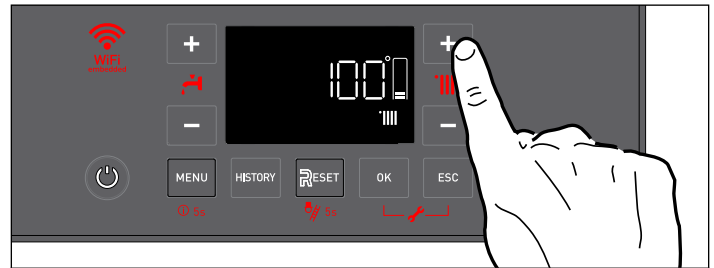

Figure 61 - Central Heating (CH) Temperature Adjustment
C. Central Heating (CH) Temperature Adjustment
It is possible to adjust the central heating (CH) temperature setpoint from the home screen by pressing the CH +/- buttons. See Figure 61. The allowable operating range is limited by the Max and Min Temperature Settings (e.g., Parameters 4.2.5 and 4.2.6) which are adjustable via the Technical Menu. See P. Technical Menu - Access and Navigation.